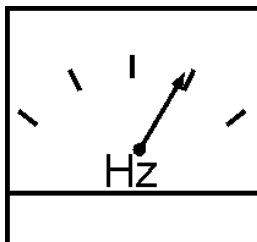

Figure 48. Frequency Meter
7. The generator's frequency meter (Figure 48) should be displaying the 60 cycle output frequency in **HERTZ**.